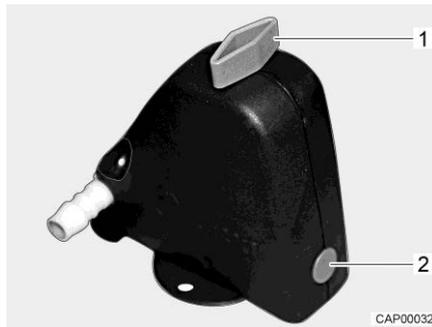
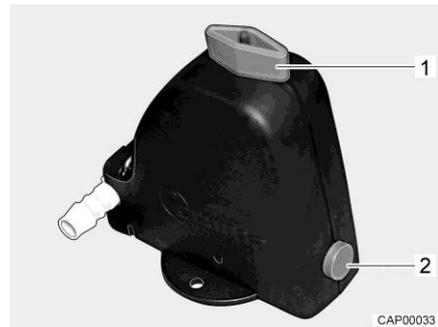

Fig. 144 Safety/drainage valve closed
Fig. 145 Safety/drainage valve open
- Open the safety/drainage valve (Fig. 144). To do this, turn the knob (Fig. 144,1) parallel to the safety/drainage valve. The push button (Fig. 144,2) jumps out. The open safety/drainage valve is shown in Fig. 145.